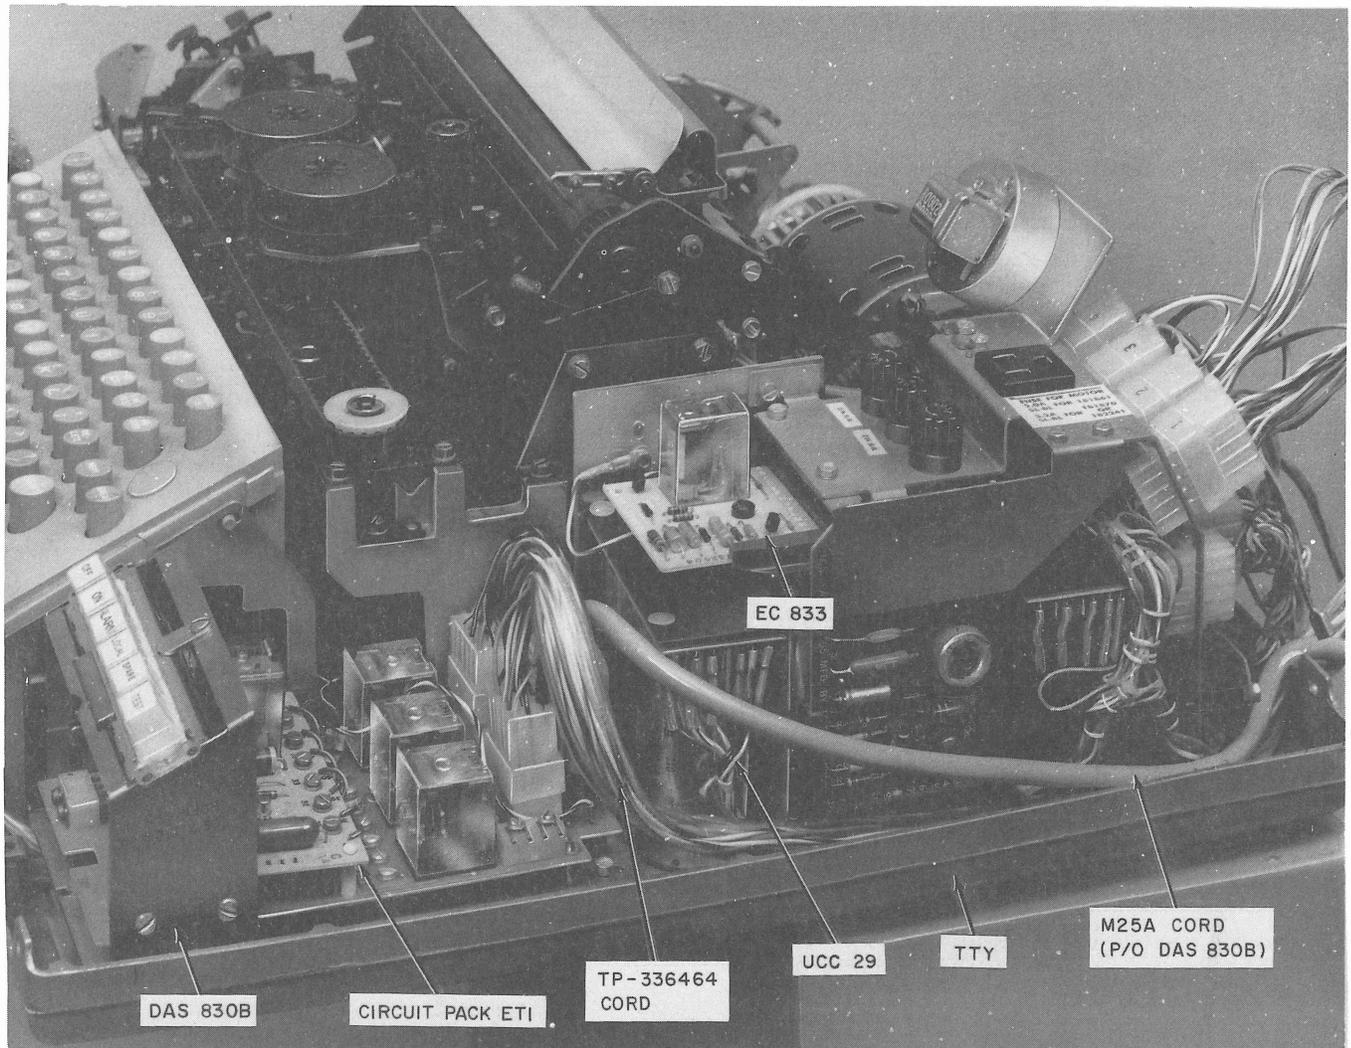

Fig. 6 → DAS 830B Mounted in TTY ←
2.02 DAS 830B is a 6-button key unit designed for mounting under the faceplate of the TTY in front of the UCC29 (Fig. 6). DAS 830B is installed in the TTY by the service center. Table A provides physical information for DAS 830B.